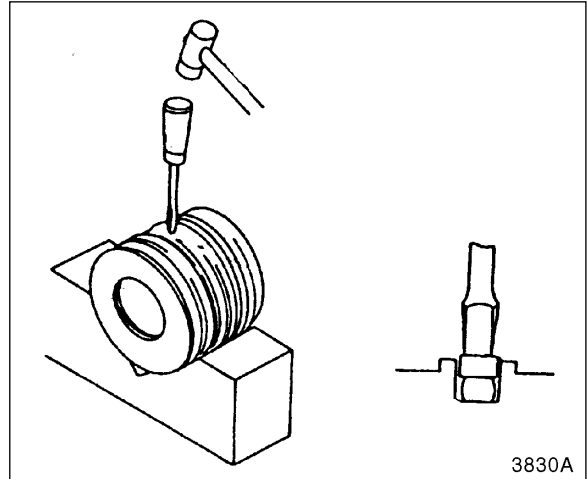

Figure 11
- Do not remove slipper seal, backup ring, and back ring from piston. If these three items are not scratched or damaged. See Figure 11. Once these 3 items are removed from piston, they must be replaced. They cannot be reused. Exercise caution when removing slipper seal to prevent damage to piston O-ring groove. Remove wear rings from piston.